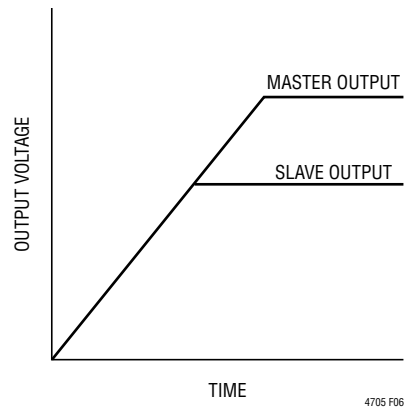

Figure 6. Output Coincident Tracking Waveform
The Coincident output tracking can be recognized as a special Ratiometric output tracking which the master’s output slew rate (MR) is the same as the slave’s output slew rate (SR), as waveform shown in Figure 6.